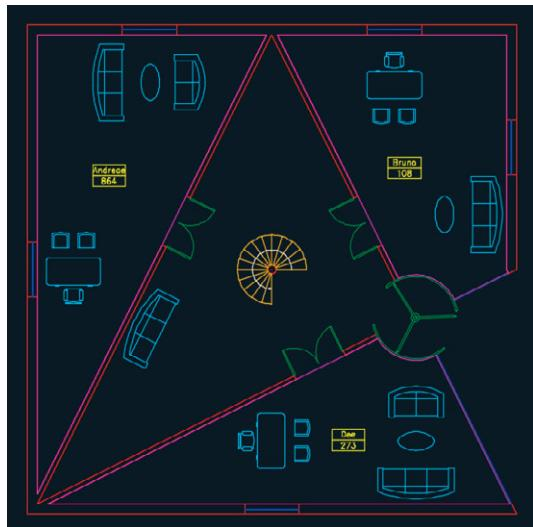

FIGURE 15.15 Three Employee Data blocks inserted and their attribute values entered
5. Press the spacebar to repeat the **INSERT** command and press Enter. Click a point in the center of the room on the bottom. Type **Dee** as the employee name, press Tab, and type **273** as the identification number in the **Edit Attributes** dialog box. Click **OK**. Figure 15.15 shows the result.